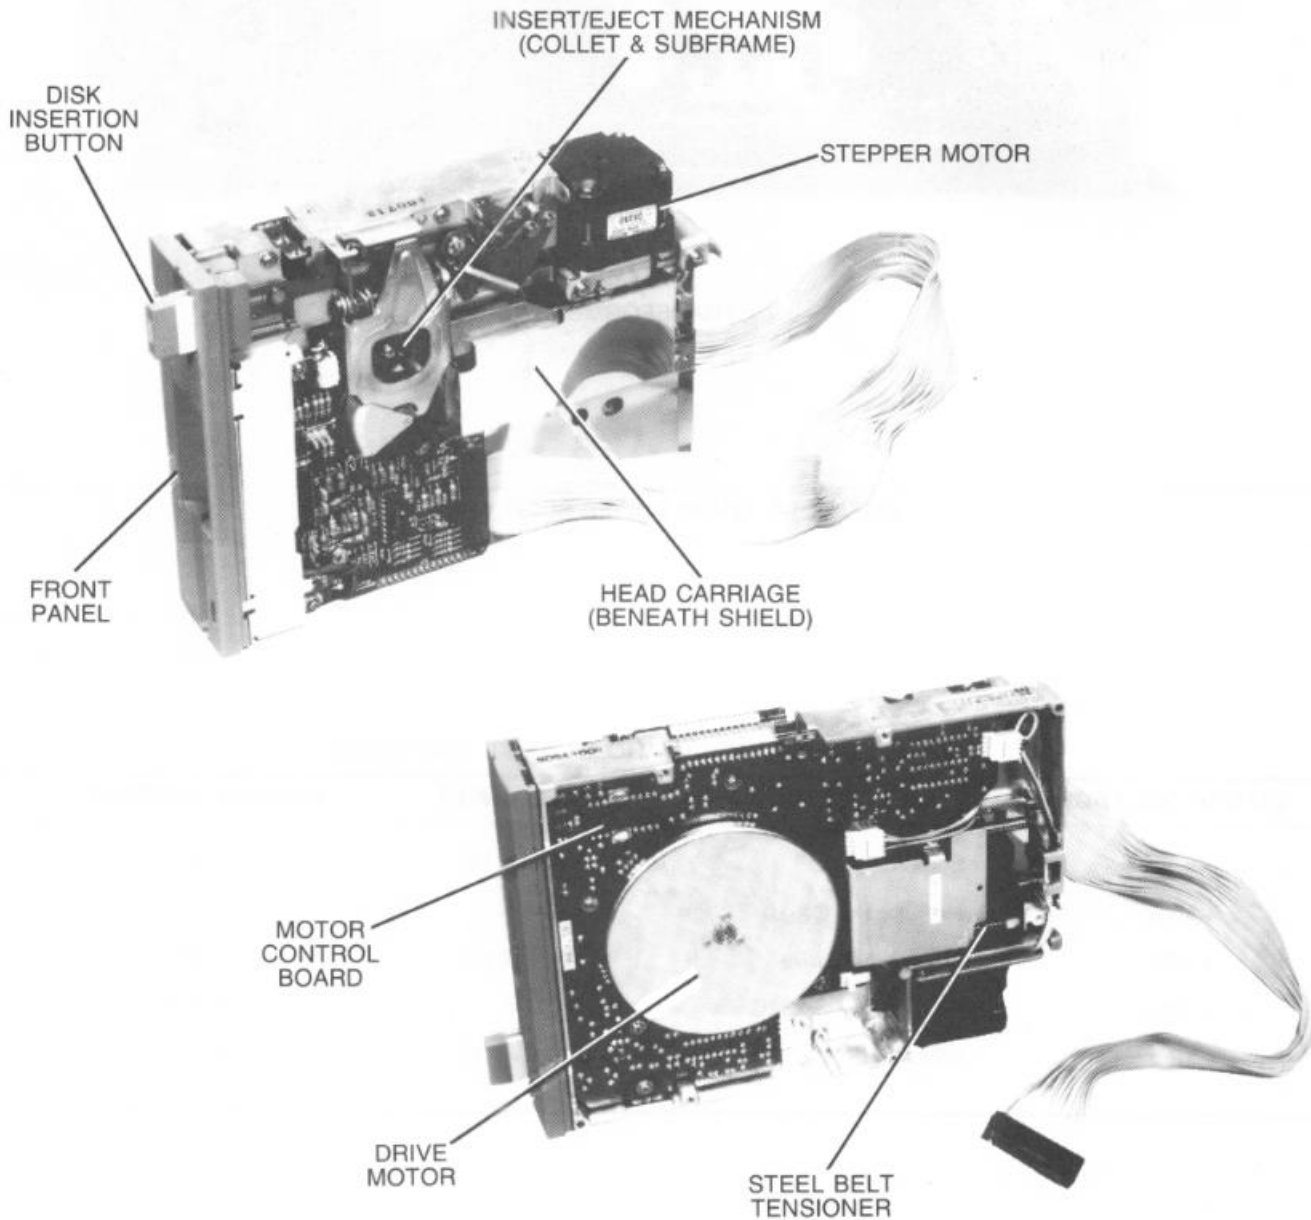

FIGURE 1-7. SD-543 FLOPPY DISK DRIVE COMPONENT LOCATIONS
**1.3.2 Floppy Disk Drive Components** (Figure 1-7)